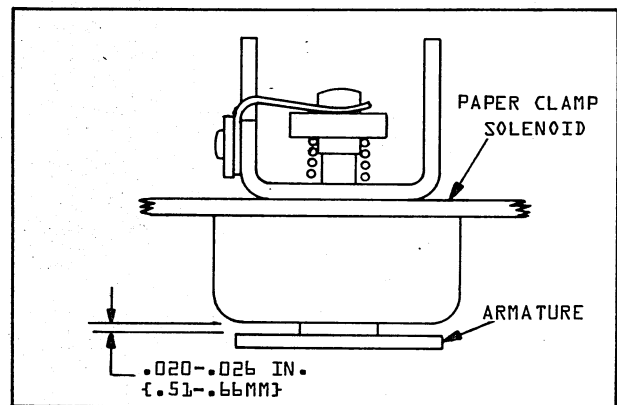

FIGURE 5-35. PAPER CLAMP ADJUSTMENT.
5. Using feeler gauges check that the solenoid armature travel is .020 to .026 inch (.51 to .66mm) as shown in Figure 5-35.